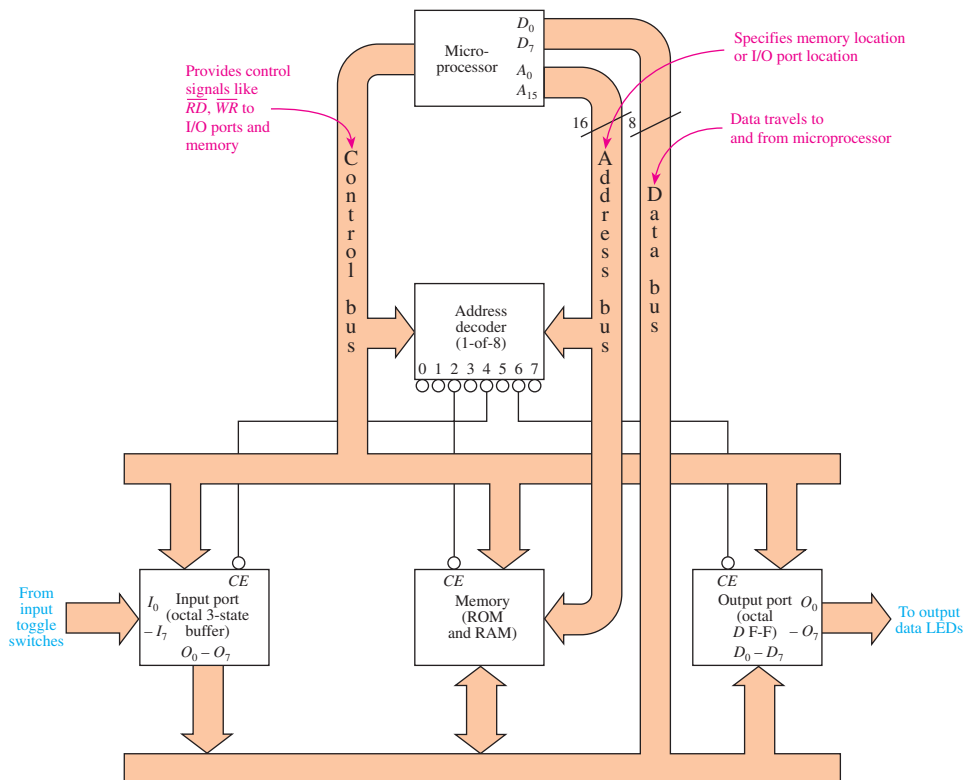

Figure 17-1 Example of a microprocessor-based system used for simple I/O operations.
Figure 17-1 shows a **microprocessor** with the necessary **support circuitry** to perform basic input and output functions. We use this figure to illustrate how the microprocessor acts like a general-purpose device, driven by software, to perform a specific task related to the input data switches and output data LEDs. First, let's discuss the components of the system.
2. The timing and control unit issue a LOW pulse on the \overline{RD} line. This pulse travels the control bus to the RAM in Figure 17-1 and causes the contents at location $2000H$ to be put onto the external data bus. RAM ($2000H$) has the machine code $3AH$, which travels across the internal data bus to the instruction register.